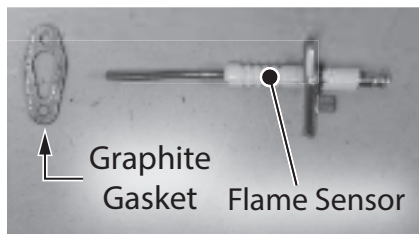

Figure 75 - Install flame sensor and graphite gasket
- 8** Locate the new flame sensor assembly and graphite gasket provided in the kit. Orient the graphite gasket as shown in Figure 75 and install to flame sensor assembly.